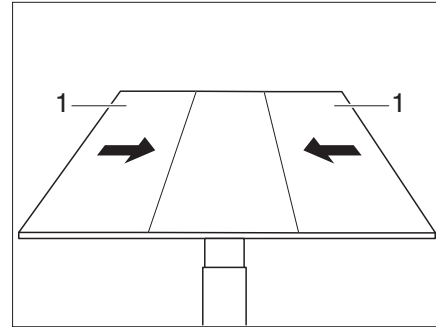

Fig. 101 Sliding the side parts against the middle part
- Push the outer parts (Fig. 101,1) of the table against the middle part.